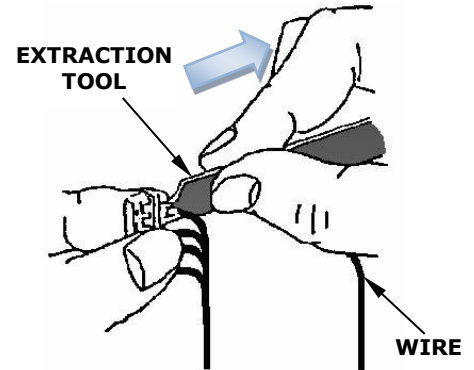

Figure 4
2. Hold the wire against the extraction tool, and pull out the wire and the extraction tool at the same time. See Figure 4.